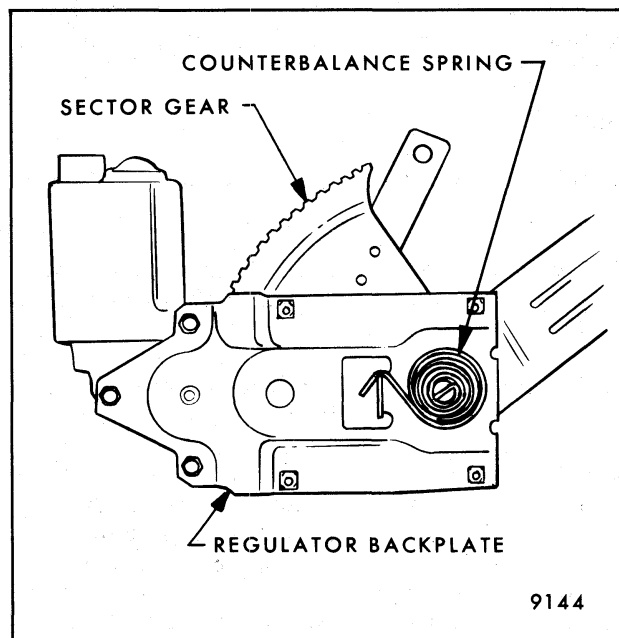

Fig. 6-45-Window Regulator Counterbalance Spring
1. Remove quarter window regulator. On "B-57" styles with no counterbalance spring (Fig. 6-45), proceed to step 4.